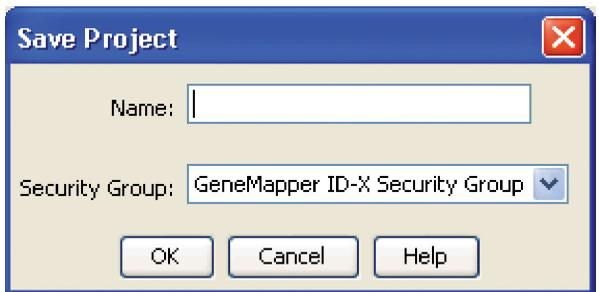

Figure 11. The ‘Save Project’ window.
9. If all analysis requirements are met, the ‘Save Project’ window will open (Figure 11).